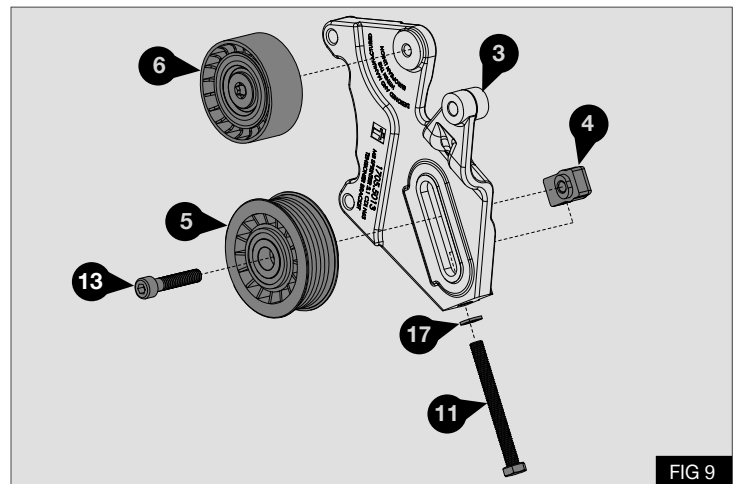

FIG 9
1. Mount the idle pulley (6) previously removed onto the tensioner bracket (3) in the position shown - Fig 9
2. Torque the idle pulley securing bolt (6) to 25Nm / 18lbft using a calibrated torque wrench.
3. Mount the supplied idle pulley (5) on to the tensioner bracket (3) using bolt (13), draw bolt mounting block (4), washer (17) and M8 x 80 bolt (11) in the position shown. Leaving the idle pulley tensioner assembly loose - Fig 9